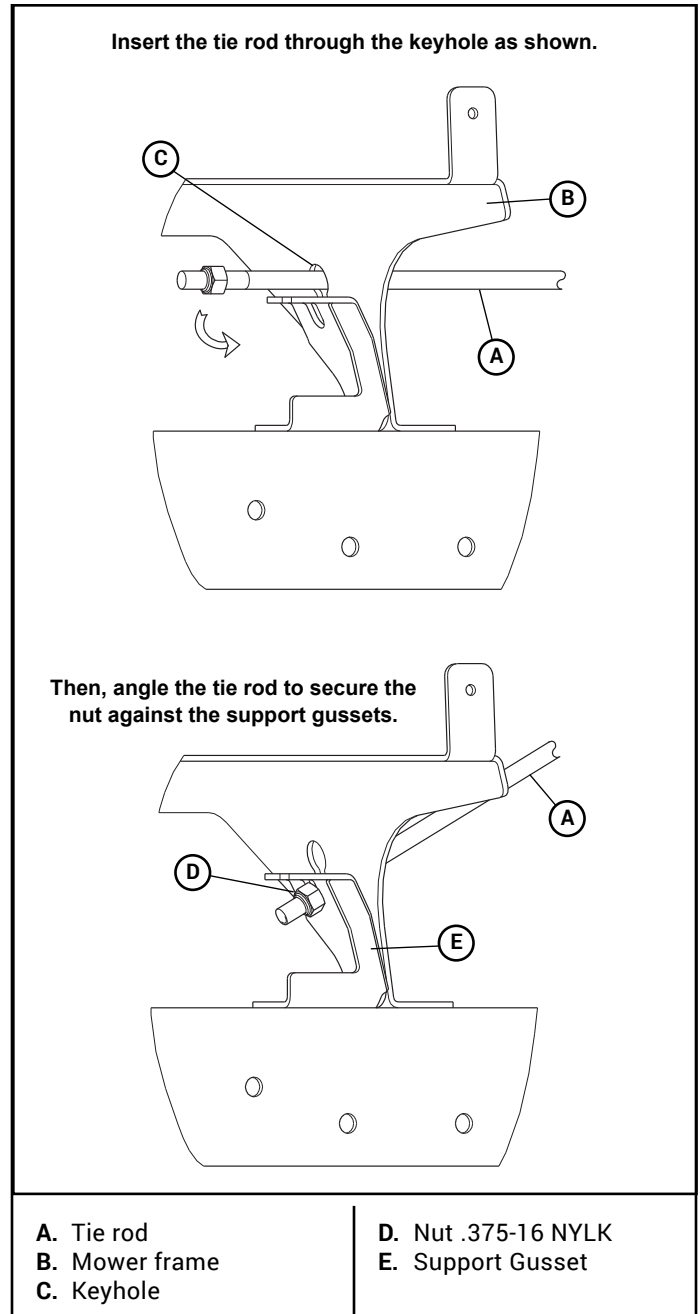

Figure 3-8
11. Insert one tie rod through the key hole slot in the fender support bracket and into the slot in the support gusset. Make sure the nut on the tie rod is inserted through the slot in the support gusset. Figure 3-3 & Figure 3-8